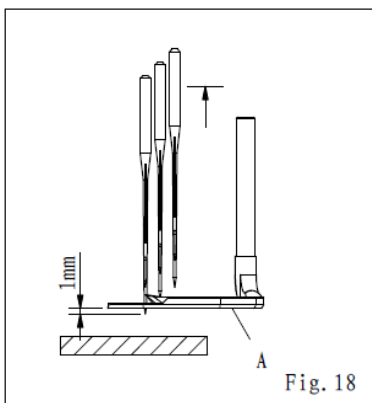

Fig. 18
1. 当针棒于上定位时，上勾针(A)之底部高于左针之针尖约 1mm，此为上勾针之高度 (图 18)。
1. When the needle bar is positioned on the top , the bottom of the spreader is about 1mm higher than the tip of the left needle ,and this is the height of the spreader. (Fig.18)